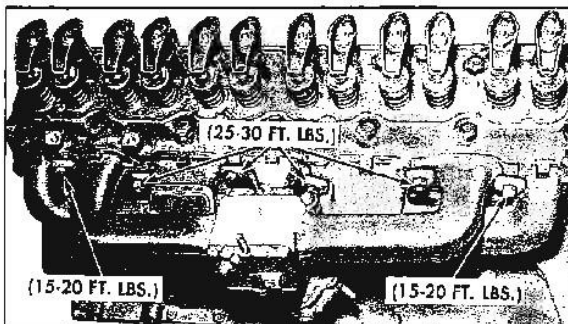

Fig. 6-13 Manifold Attaching Points
6. Tighten center clamp bolts to 35 ± 5 lb. ft. and end bolts to 20 ± 5 lb. ft. (Fig. 6-13).